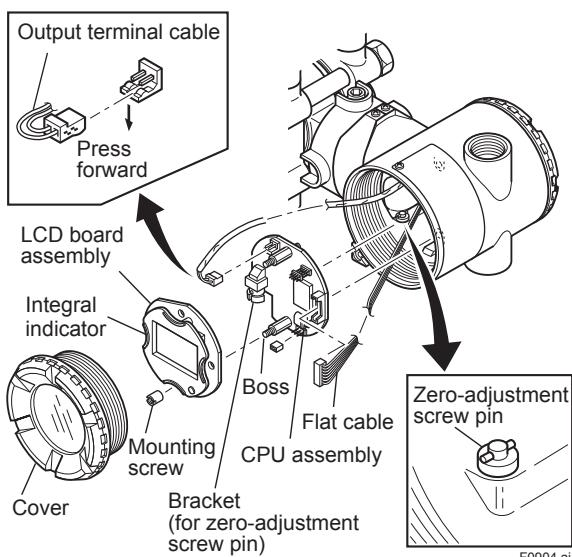

Figure 9.4 Removing and Attaching LCD Board Assembly and CPU Assembly
This subsection describes the procedure for replacing an integral indicator. (See Figure 9.4)
This subsection describes the procedure for replacing the CPU assembly. (See Figure 9.4)
- 2) Turn the zero-adjustment screw to the position (where the screw head slot is horizontal) as shown in Figure 9.4.